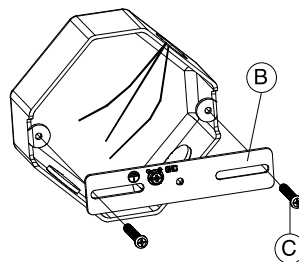

Figure 2
2. Install the **mounting bracket (B)** to the junction box (not included) by aligning the mounting screws (C) with the junction box and mounting bracket. (See Figure 2)